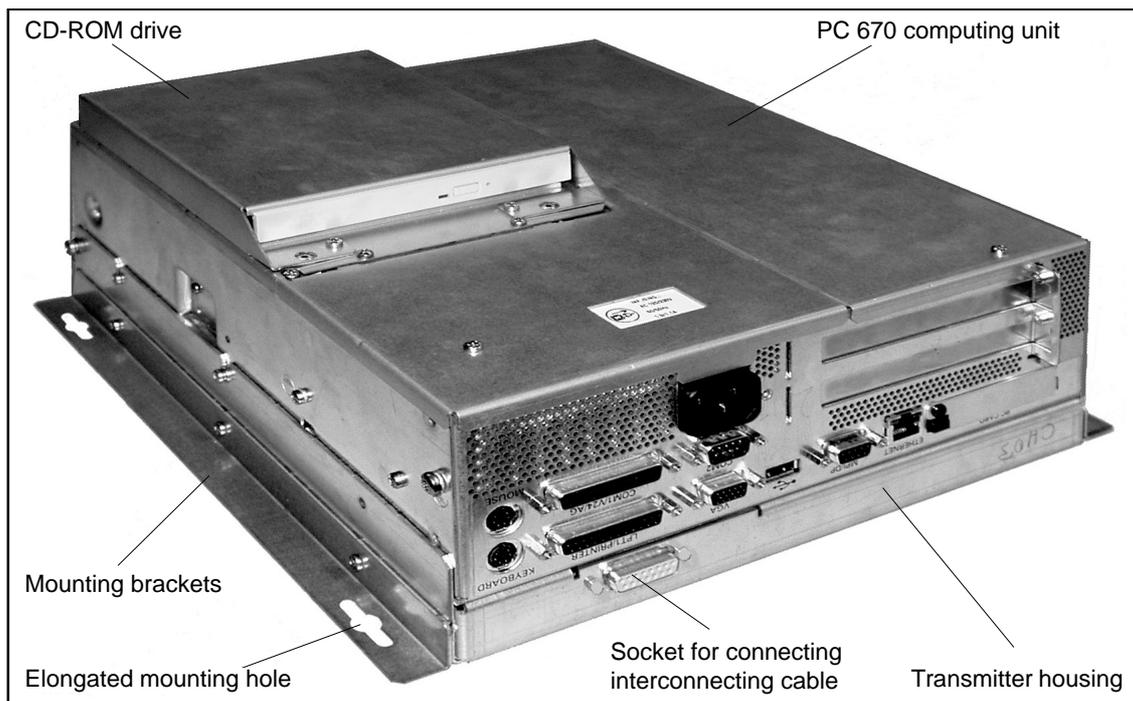

Figure 7-1 PC 670 computing unit in distributed configuration (230 V power supply) including transmitter
Figure 7-1 shows a PC 670 computing unit (distributed configuration) with the transmitter fitted between mounting brackets.
The device is fitted with the help of four elongated holes in the mounting brackets (refer to Figures 7-1 and 7-2).
2. Unscrew the four fastening screws on the transmitter housing (Figure 7-1).